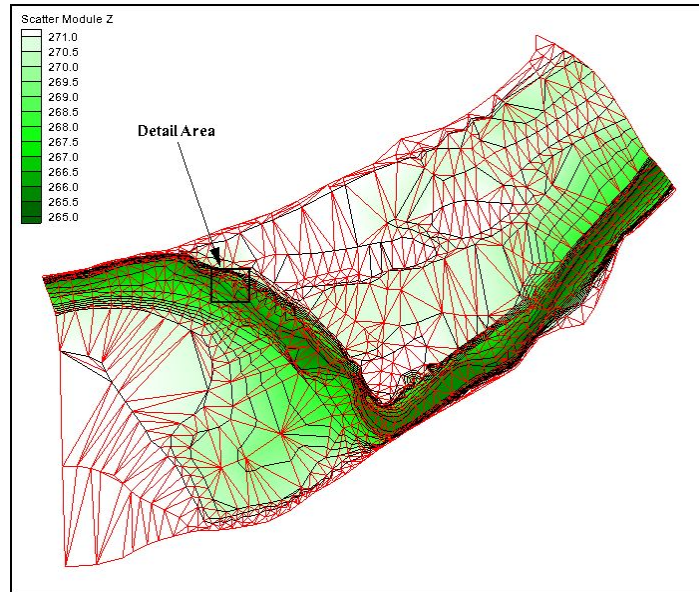

Figure 5 Manual swap detail area.
7. With the *zoom tool*  zoom to the detail area as shown in Figure 5.